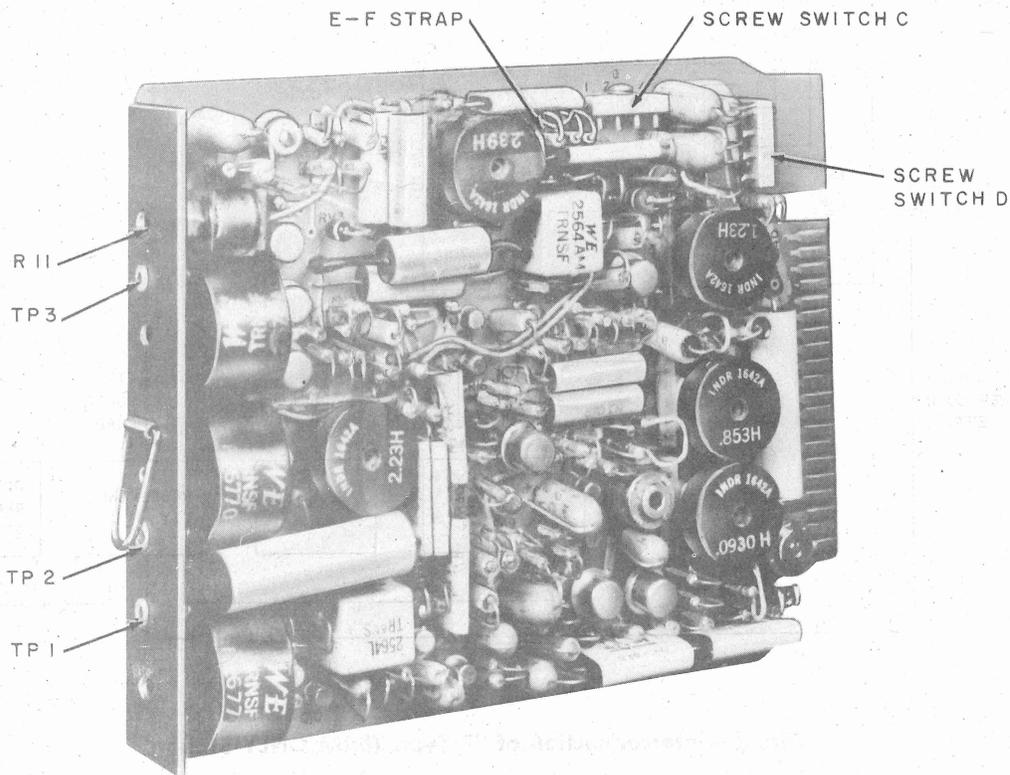
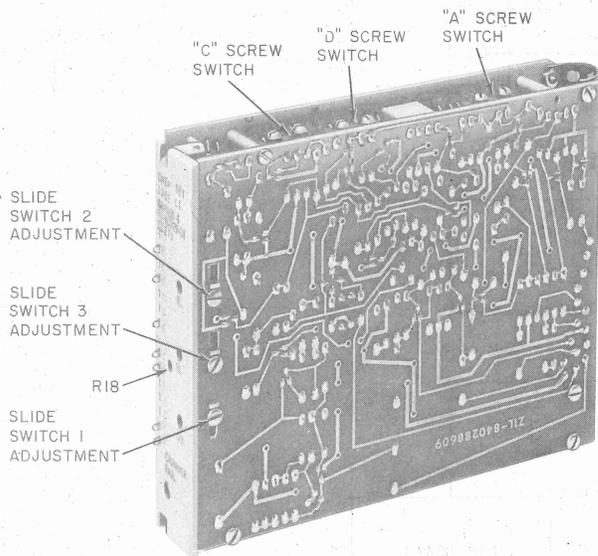

Fig. 8—Data Set 108A-Type—Location of Test Points and Screw Switches
Fig. 9—Data Set 108E-Type—Location of Test Points and Screw Switches
4.01 Screw switch D (Fig. 8 for data set 108A-type or Fig. 9 for data set 108E-type) may have been set to provide maximum sensitivity (maximum gain of the receive buffer amplifier) during manufacturing tests. The gain may be reduced in steps as indicated in Table A. The gain must be adjusted to meet the requirements of each installation
4.02 Strapping of the hybrid is determined by the loop impedance of the facility. The loop impedance should be shown on the service order and/or circuit layout record card. Table B shows typical loop impedance that can be used when the cable makeup is known. Select the proper facility makeup from the TYPICAL LOOP FACILITY column or find the measured loop impedance in Table B. The screw-switch settings and strapping required for optimum trans-hybrid balance is given in Table B. Refer to Fig. 8 for the location of the screw switches and strap for data set 108A-type. Refer to Fig. 9 for the location of data set 108E-type screw switches.
- 4.05 Connect terminals + and - of portable station test set TTS-28 to TP1 and TP2 of the data set (Fig. 8 or 9). Set FUNCTION switch of TTS-28 to DBM 900Ω TERM 0 position.
- 4.07 Adjust R11 on data set 108A or R18 on data set 108E for the output level specified on service order and/or circuit layout record card (see Fig. 8 or 9).